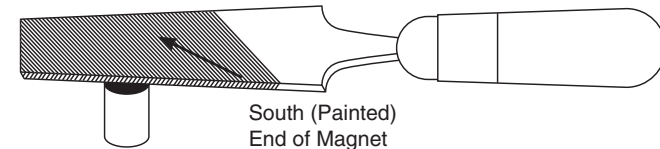

Figure 1
7. Using the sharp edge of a file, scratch the yellow end of the magnets so that the end can be identified after the paint is removed during cleaning of the magnets. (See Figure 1)